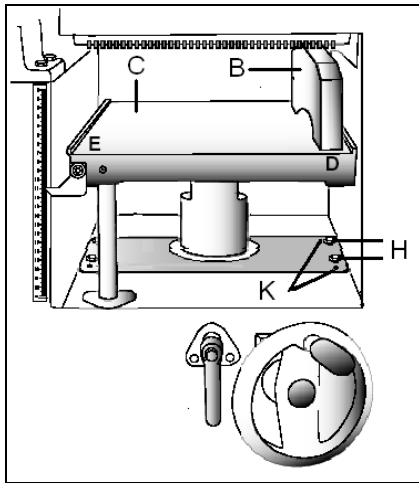

Fig 15
Use a gauge block (B) and gently rise the table (C) to inspect (Fig 15).